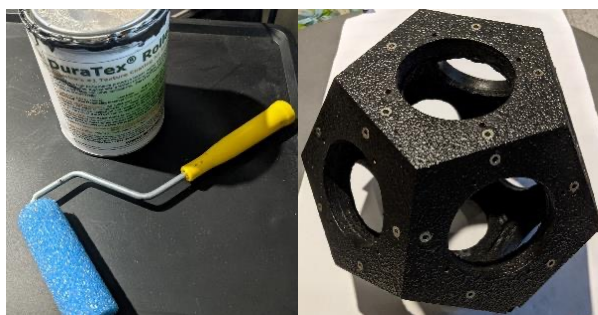

Figure 3.6 Duratex loudspeaker enclosure protective paint
Step 7: Paint the enclosure with Duratex paint using the textured roller as per the manufacturer instructions. This is a widely used paint specifically designed for speaker enclosures and protects it from damage from the elements and general uses. I sprayed the whole enclosure with an undercoat of quick dry black spray paint before applying the Duratex paint (refer to Figure 3.6).